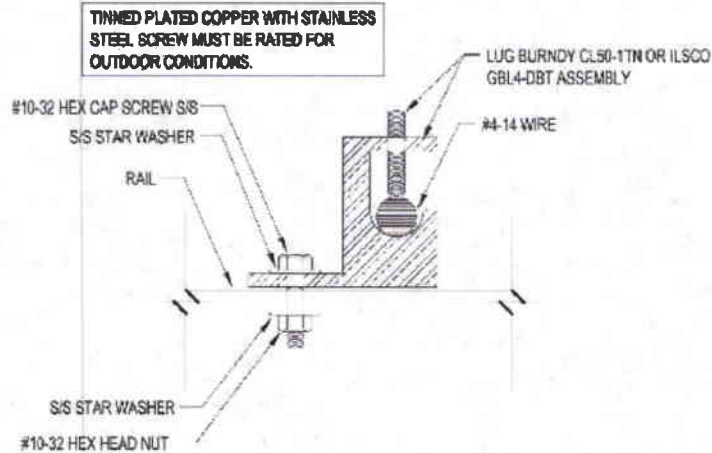

Figure 3 – Basic UL Grounding Structure
- Insert STS Bolt #10-32 into the frame grounding hole with associated hardware as shown in Figure 3; or